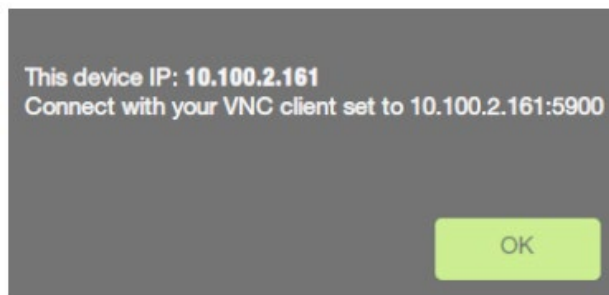

Figure 28: The Network Dialog
4. The *Configuration* Menu displays. See Figure 28.
Click on **Clock** (Figure 28).
Click on Serial Port on the Config screen (Figure 28) to access the Serial Port Dialog. The serial port dialog lets you change the baud rate. Figure 33 shows the serial port dialog.
1. Click on **Users** (Figure 28) to access add users or change user permissions.